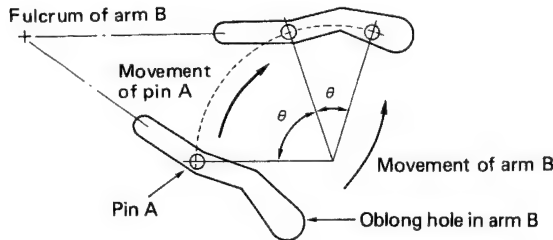

Fig. 12
4. The oblong hole of arm "B" is as shown in Fig. 12. The cassette tape draw-in process will be complete when the pin "A" degree of rotation is θ . Arm "B" will not move while the degree of rotation is θ .